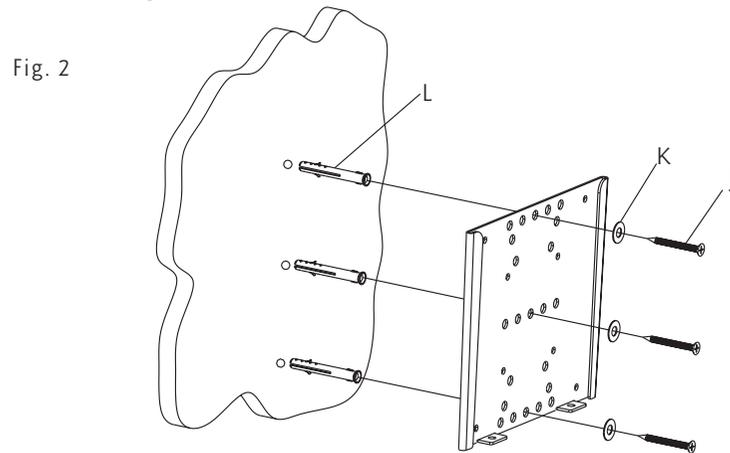

Fig. 2
Securely mount Wall Plate with supplied Long Bolts (J) and Washers (K). (Fig. 2)
Insert Wall Anchors (L) into the mounting holes, and lightly tap them flush to the wall with a hammer, as shown in Fig 2.